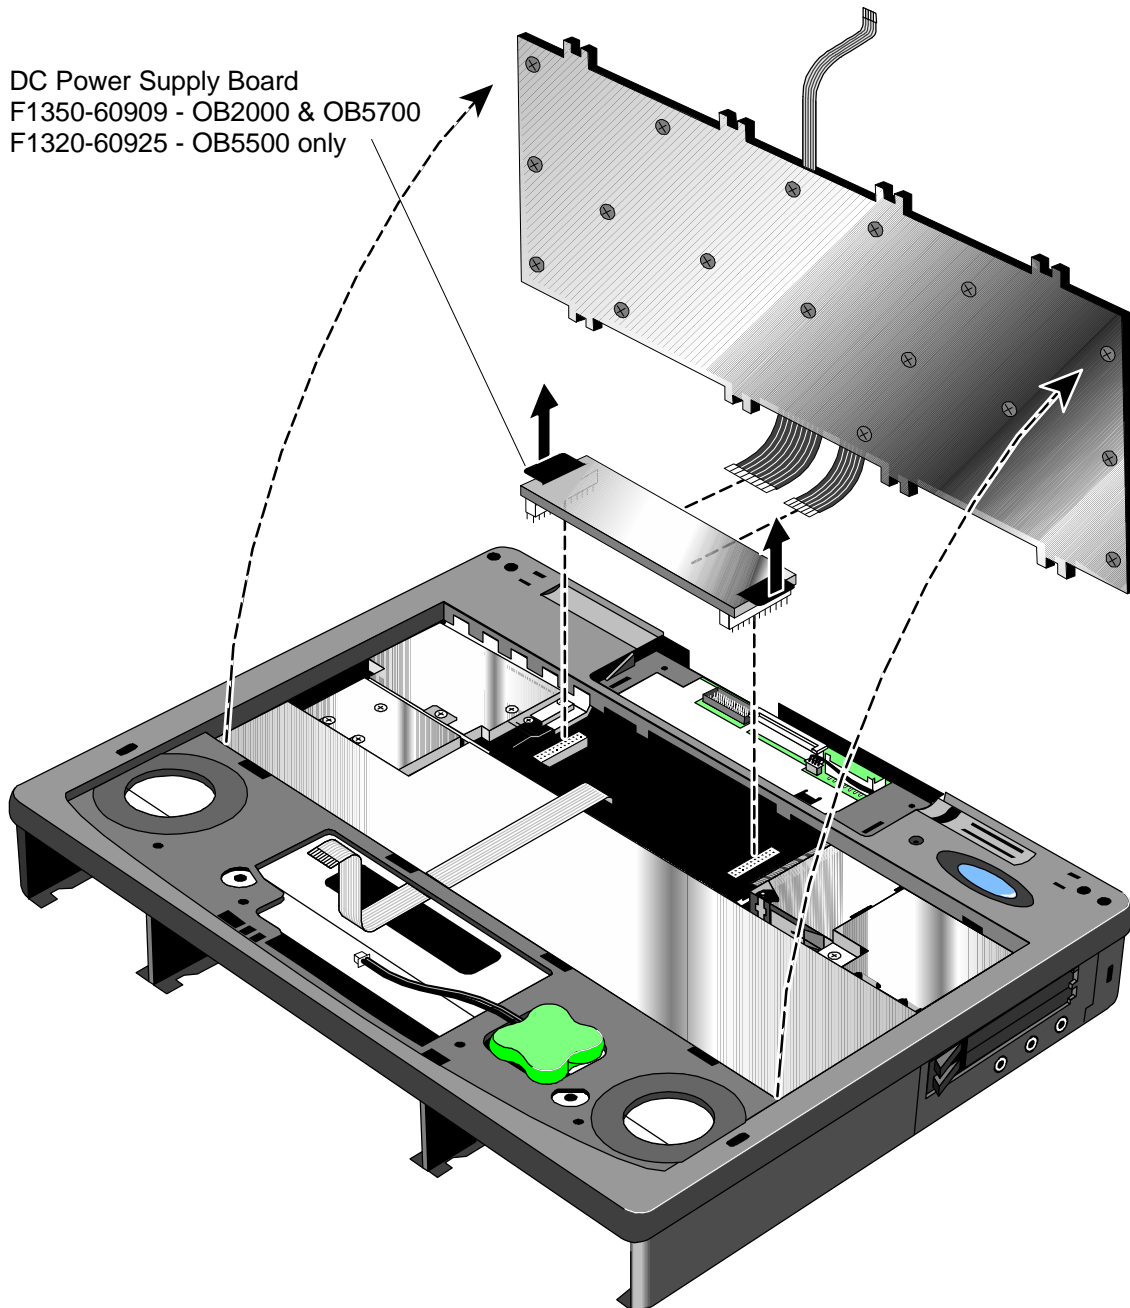

Figure 34 - Keyboard Removal
8. To remove the Keyboard further, the DC Power Supply Board must be removed. Pull up **evenly** on both tabs of the Power Board. See Figure 34.